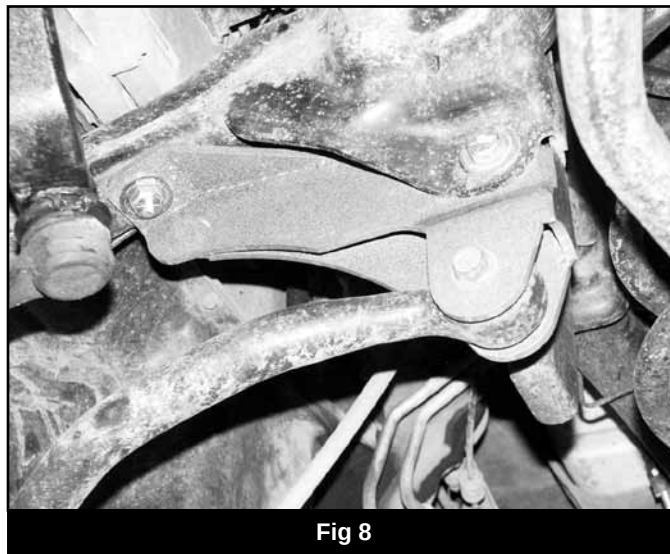

Fig 8
30. Install the new track bar bracket (01285) to the OE frame mount with the $\frac{5}{8}$ " x 3" bolt, nut and washers (BP 642). Attach the end of the bracket to the frame crossmember with the 9/16" x 3" bolt, nut and washers from bolt pack #642. (Fig. 8) Torque the 9/16" hardware to 100 ft-lbs and $\frac{5}{8}$ " hardware to 150 ft-lbs.